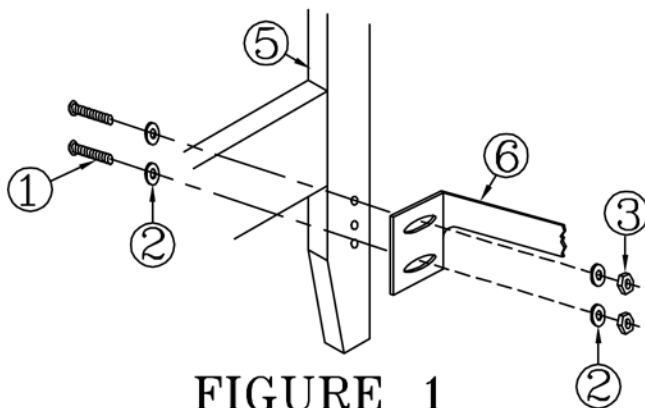

FIGURE 1
- Secure frame bracket (6) to headboard posts (5) with screws (1), washers (2) and nuts (3). See Figure 1